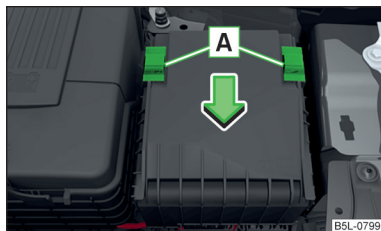

Fig. 195
- Turn the securing bracket **A** » Fig. 195 in direction of the arrow. The symbol is displayed behind the catches. ⚠